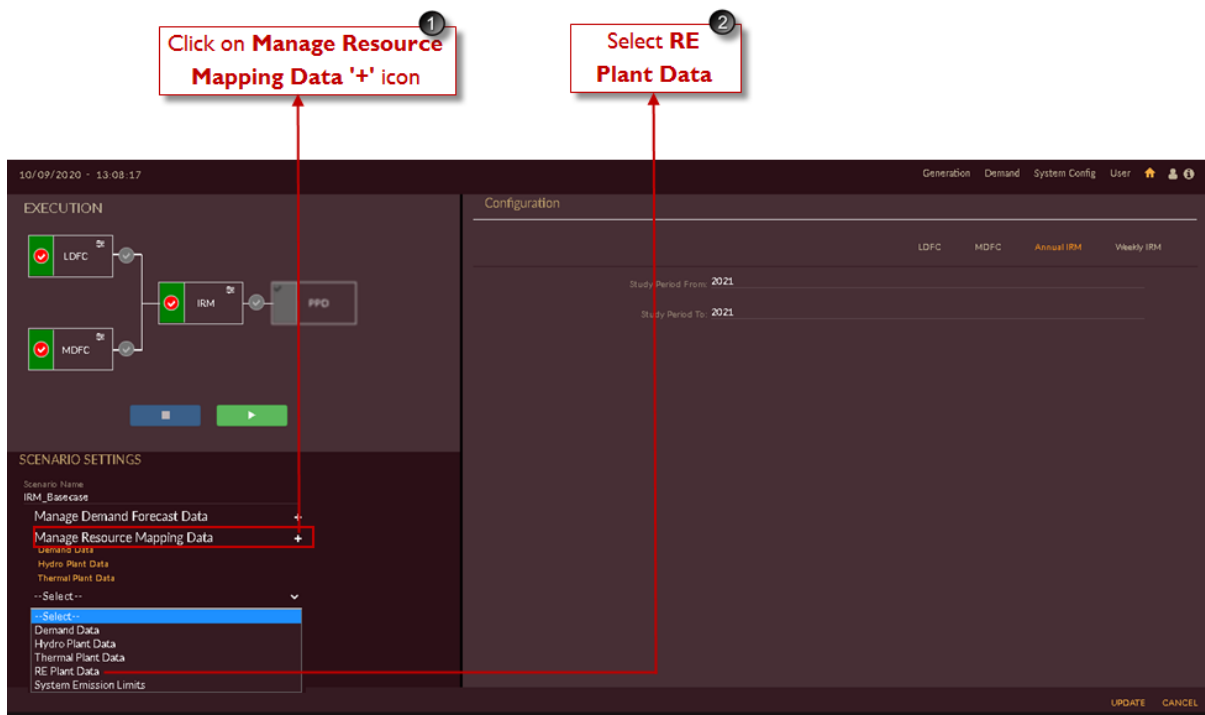

Figure 214. Manage RE Plant Data
2. Select **RE Plant Data** from the drop-down list as shown in Figure 214.